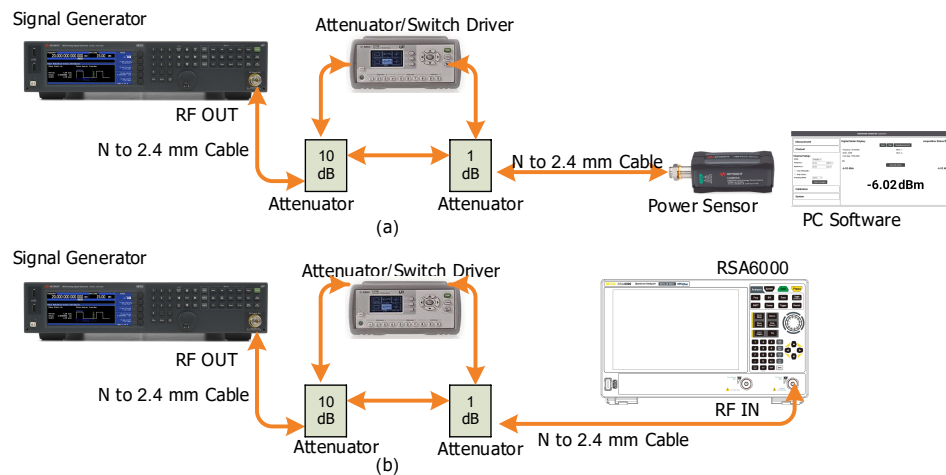

Figure 4.8 Input Attenuation Switching Uncertainty Test Connection Diagram
2. Connect the output terminal of the signal generator with the program-controlled attenuator; then, connect the program-controlled attenuator with the power sensor, as shown in *Figure 4.8 (a)*.
6. Disconnect the program-controlled attenuator and the power sensor. Connect the output of the program-controlled attenuator to the RF input terminal of the spectrum analyzer, as shown in *Figure 4.8 (b)*.